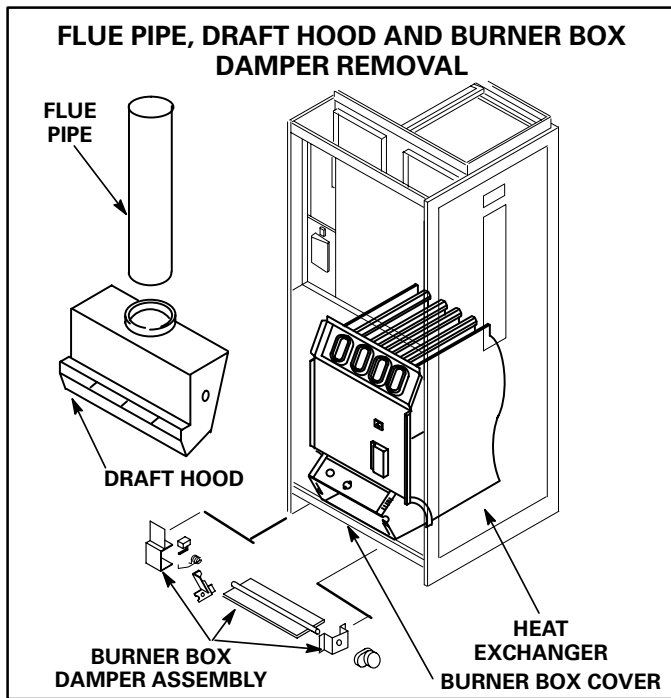

FIGURE 17
- 5 – Remove flue pipe and draft hood (figure 17).